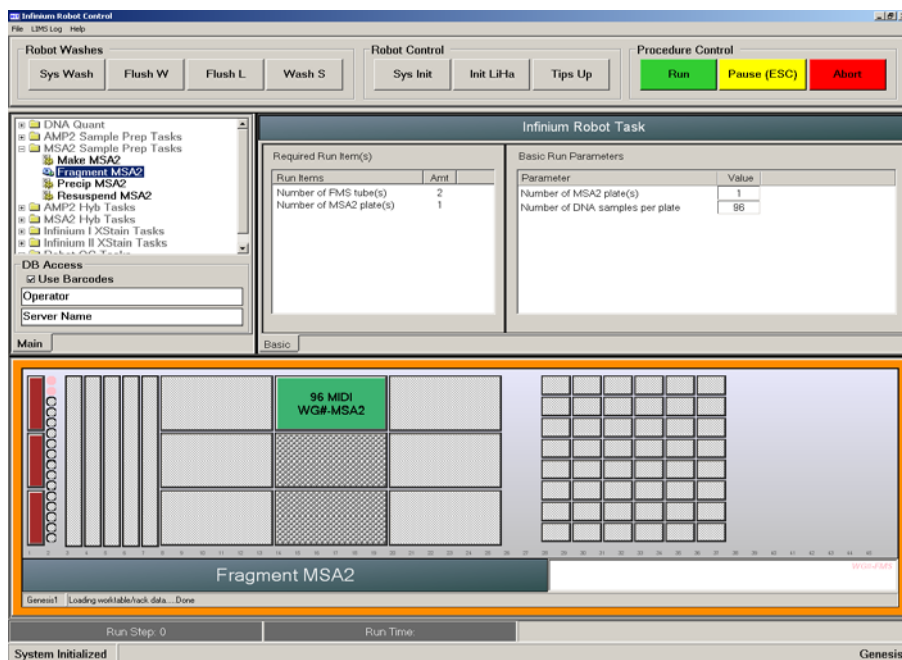

Figure 98 Fragment MSA2 Screen
5. Place the MSA2 plate on the robot bed according to the bed map (Figure 98).